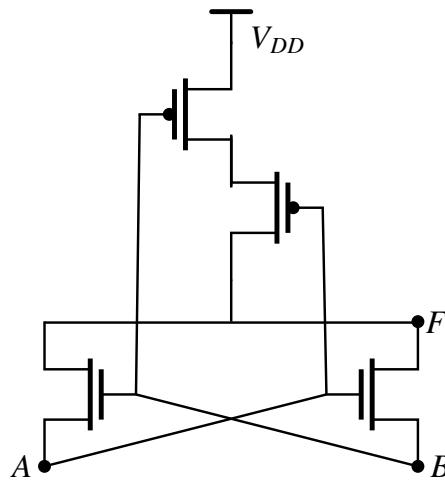

Fig. 5.34: Circuit Diagram
38. In the circuit shown in Fig. 5.34, A and B are the inputs and F is the output. What is the functionality of the circuit? (GATE-EC2019,15)